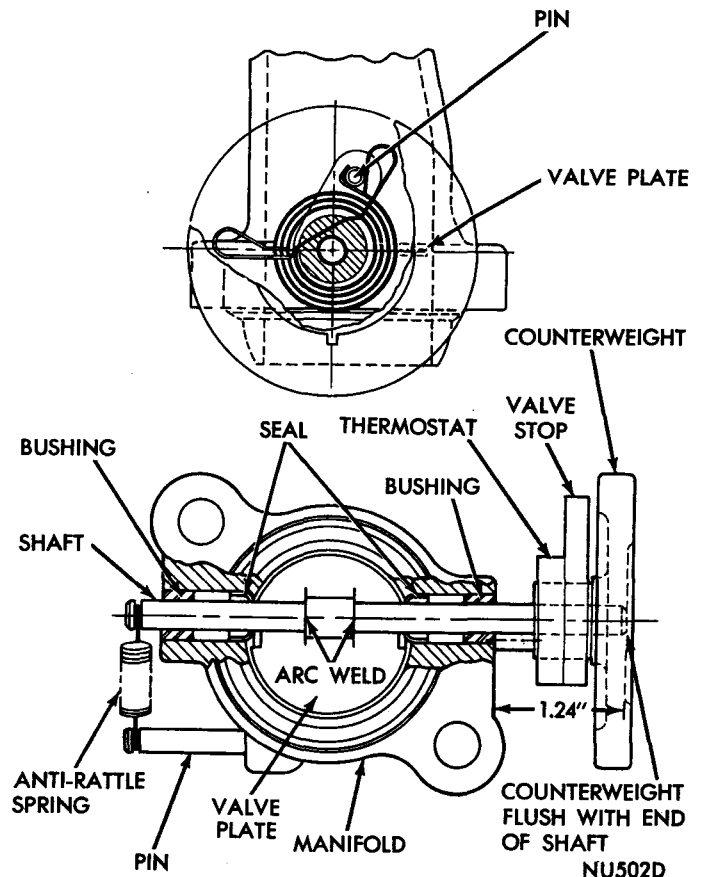

Fig. 11—Proper Manifold Heat Control Valve Installation (318 and 360 Cubic Inch Engines)
- (1) Remove exhaust pipe from manifold.
- (2) Remove exhaust manifold from engine.
- (3) Position valve plate, grind off spot welds from valve plate and shaft.
- (4) Remove counterweight and shaft assembly, valve plate. Press out bushings and seals from manifold (Fig. 11).
- (5) Inspect vent holes and clean out if necessary.
fold .100 inch on each side with cupped ends facing outward (Fig. 11).
- (2) Press in bushings flush with outer edge of exhaust manifold.
- (3) Line ream bushings and seals, .3095 to .3110 inch diameter. Test for free operation of shaft in bushings and seals.
- (4) Mark one end of shaft with a suitable dye at 1.240 inches, press counterweight on marked end of shaft until flush with end of shaft.
- (5) Position thermostat so center end or tab is pointing left and hook or outer end points down, install thermostat on counterweight.
- (6) Install valve stop on counterweight so looped ends face away from thermostatic spring hook end.
- (7) Holding thermostatic spring wrapped 140 degrees in a counterclockwise direction viewed from counterweight end, install shaft assembly through outer bushing, seal and valve plate with center strap facing flange end of manifold; attach hook end of thermostatic spring to stop pin (Fig. 11).
- (8) With counterweight end of shaft positioned 1.240 inches (previously identified) away from manifold, valve plate centered between seals and valve plate closed (Fig. 11).
- (9) Arc weld valve plate to shaft with stainless